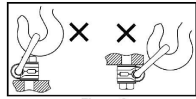

Figure 2
- Apply partial load and check proper rotation and alignment. There should be no interference between load (work piece) and hoist ring ball (Fig. 2).